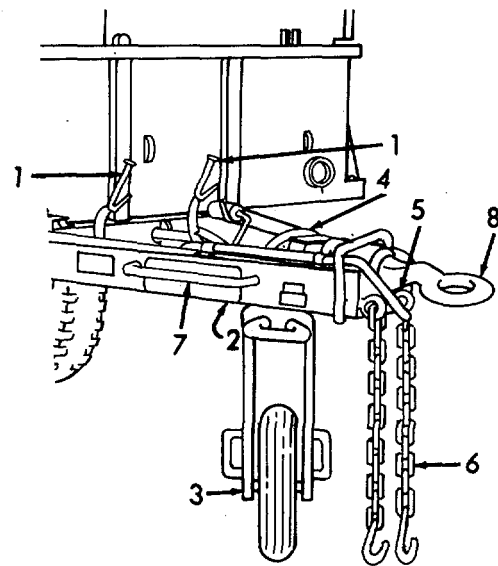

Figure 2-1. Unhooking the Trailer.
- a. Refer to Figure 2-1. Set both handbrakes (1) by pulling the handbrakes forward to apply the brakes.
- b. Pull up on the handle (2) and lower the caster (3) into position. Release the handle and check that the caster is locked in the down position.
- c. Disconnect the intervehicular electrical cable (4) from the towing vehicle. Place the cable in the bracket.
- d. Close the towing vehicle air shut-off valve. Disconnect the intervehicular air hose (5) from the towing vehicle and put it in the bracket.
- e. Unhook the safety chains (6) from the towing vehicle and hook them to the lifting bars (7).